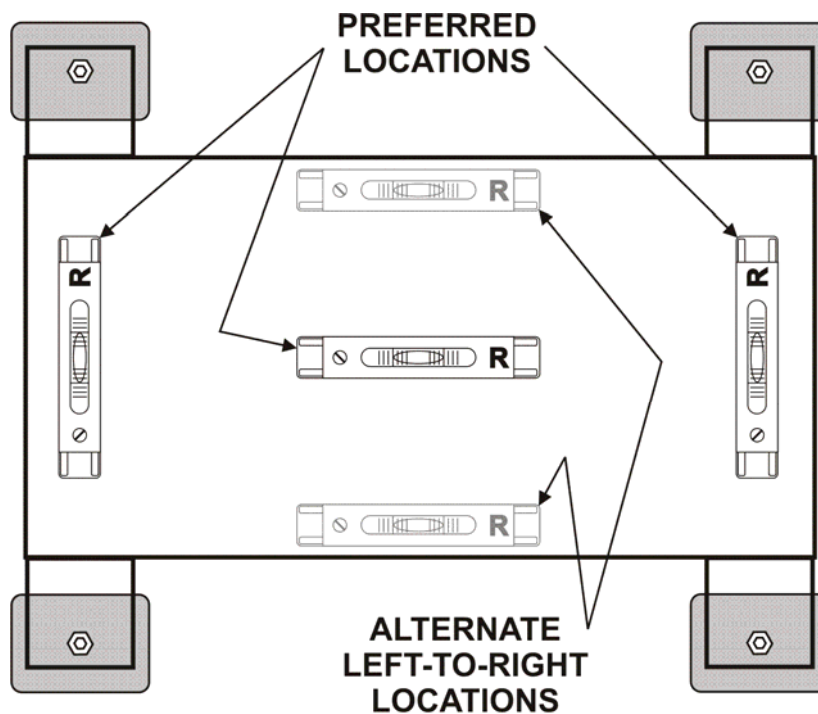

Figure 4
If you can't find a good spot to place the level, the bolster plate should be ground flat and parallel. If there are just a few scratches or small dents, you can usually correct it by stoning the area with a fine-grained stone. Don't use a file or coarse stone; you may remove too much metal. All you want to do is remove the raised metal around the scratches and dents. Remember, you are measuring this surface to tens of a thousandths of an inch or better. The level should be positioned so that it is parallel to the front and rear edges for left-to-right readings, and parallel to the left and right edges for front-to-rear readings, as in Figure 4.
8. Repeat Steps 1 through 8 until the press is level at all of the level locations shown in Figure 4.